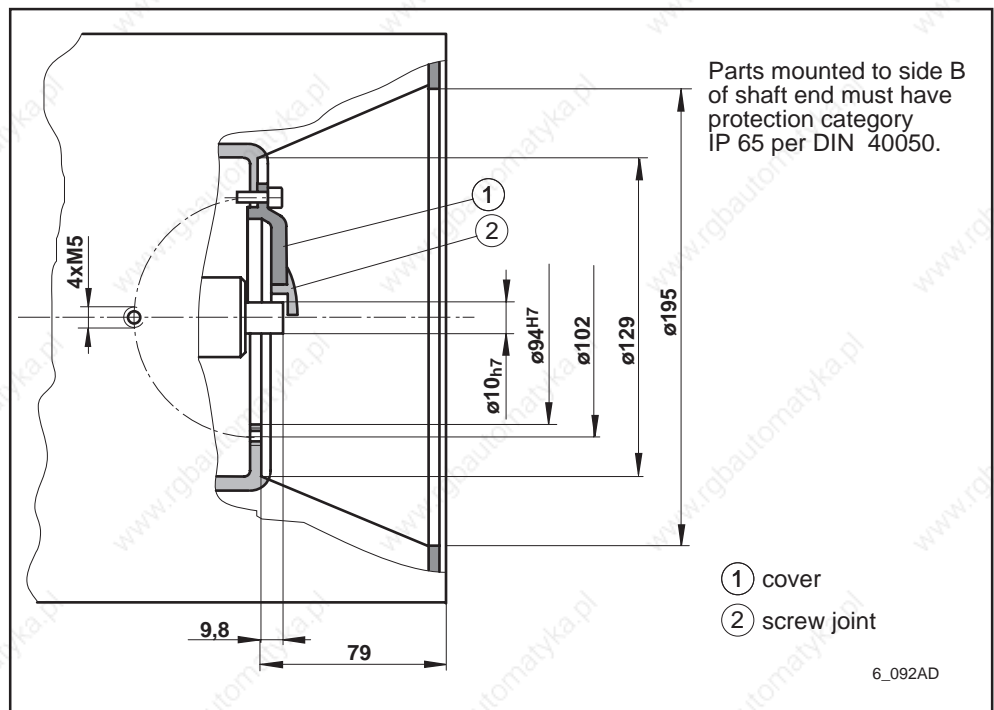

Fig. 6.9: Side B shaft end 2AD132
- ④ flange dimensions per DIN 42948
- ⑤ ring screw M10 - DIN 580
- ⑥ add. thread M10 for ring screw second thread opposite
- ⑦ air flow A → B
- ⑧ air flow B → A
- ⑨ Motor feedback connection type 3 (flange socket), arranged per position of power connection
- ⑩ axial blower
- ⑪ Radial blower; position of radial blower may not be the same as power connection
- ⑫ Motor blower connection: terminal box with cable screw joint
- ⑬ Mounting distance (minimum for pulling in ventilating air)
- ⑭ B-side shaft end: see Fig. 6.9 for dimensions